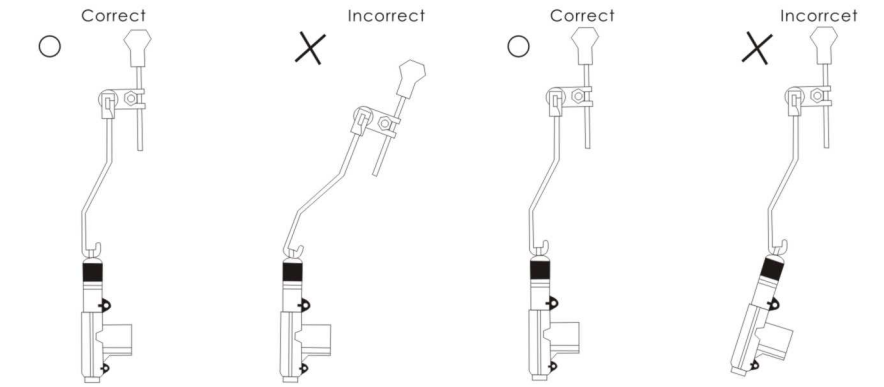
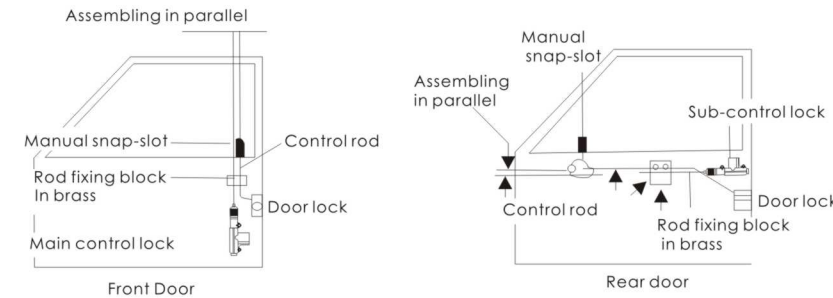

FIG 2.0 INSTALLATION OF ROD
FIG. 1.0 INSTALLATION OF CONTROL LOCK
- 2) Be sure to position the control lock to the correct direction shown in fig. 1.0 (make sure the main shaft in the control lock is moving in parallel to the moving direction of the door-lock knob snap-slot).
- 2a) Either choose to apply the support board (SB) for installing the main control lock (ML) and the sub-control lock (SL).
- 3) Assemble the control rod (CR) to the control lock, (adjust to made the both end-sections of the rod be in parallel to each other as shown in fig. 2.0).